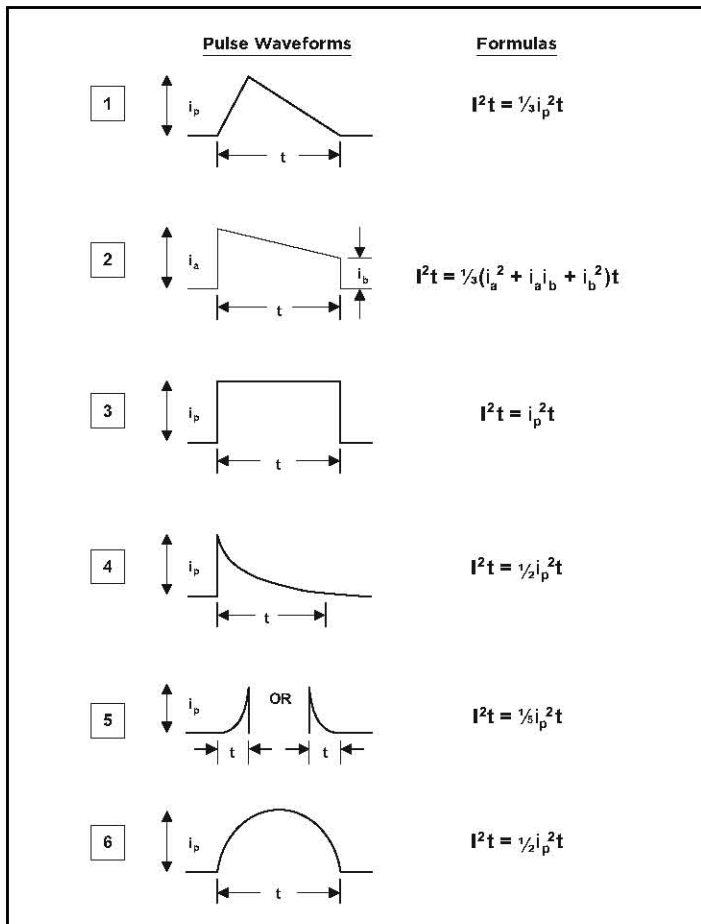

Figure 3. Waveform  $I^2t$  Formulas
Figure 3 presents the most common current waveforms and simplified equations for their  $I^2t$ . In most systems, current waveforms could be approximated as either one of those on Figure 3 or their sequence. In case of such a sequence the resulting  $I^2t$  is the sum of  $I^2t$  of those individual waveforms.
- Step 2—Determine which pulse waveform in Figure 3 most closely represents the application and calculate the waveform's  $I^2t$  value.
like that of waveform #4 in Figure 3. Using the associated formula, the  $I^2t$  value is calculated as: